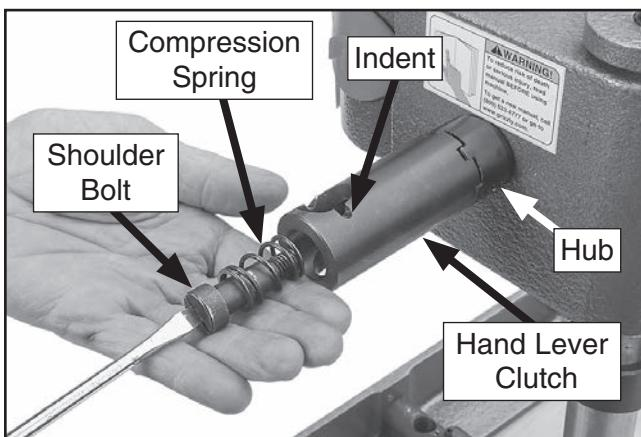

Figure 6. Handle clutch attached to hub.
1. Attach hand lever clutch (see **Figure 6**) to hub with compression spring and M10-1.5 x 10 shoulder bolt, ensuring that indent for locating pin is facing front of machine.